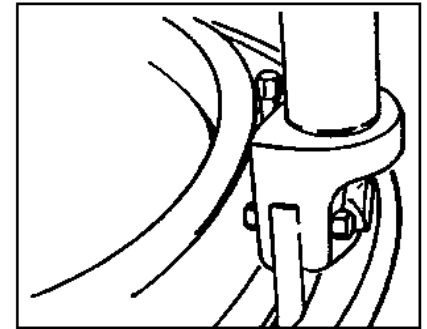

Figure 3
1. Place the bead breaker into the continuous pry bar pocket, with the hooks under the lip of the bead seat band. (See Fig. 3.)
3. Adjust the ram adjusting screw so that the bead breaker is perpendicular (90°) to the wheel. (See Fig. 3.) In some cases you may have to use an OTR-1825D (10100) or OTR-1600 (10105) to move the rim flange far enough back to insert the larger 11044.